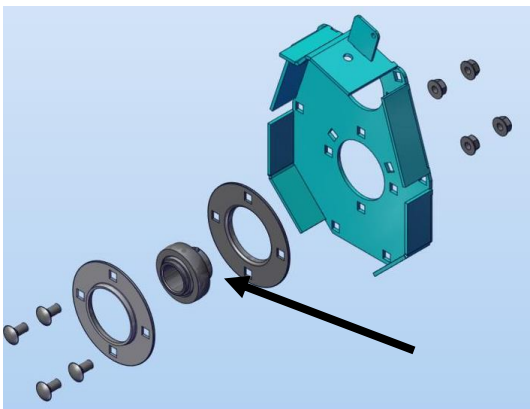

Figure 253
6. Replace the parts as needed. To assemble install the bearings in the RH case assembly. Figure 253